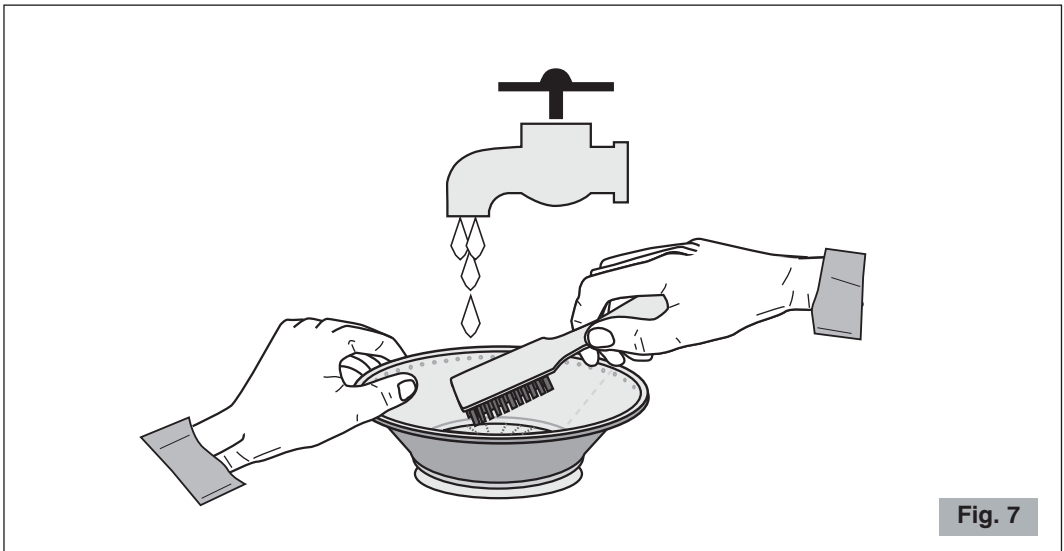

Fig. 7
- To obtain a higher yield of juice always control that the basket is well-cleaned by using a nylon brush. Put the basket under running water and use the brush to clean the inside of the strainer (see Fig. 7). Hold the basket up against the light to make sure that none of the perforations are blocked. Should the perforations of the strainer remain blocked, immerse the basket in a solution of hot water with 12% lemon juice or vinegar to loosen the blocked material. Alternatively, wash the basket in a dishwasher.